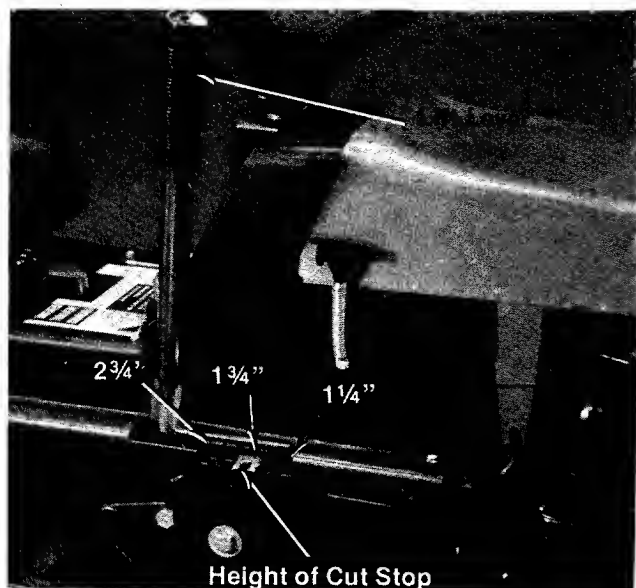

Figure 7.
2. Using the height of cut stop, set the cutting height lever in the desired position. (See figure 7.)